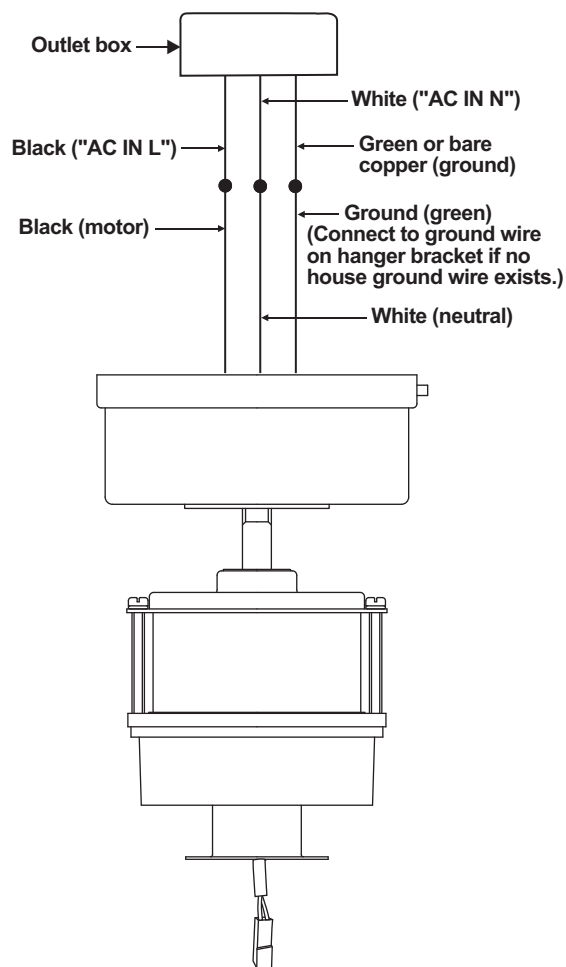

Figure 6
1. Connect the fan supply (black) wire to the black household supply wire as shown in Figure 6.
2. Connect the neutral fan (white) wire to the white neutral household wire. (Fig. 6)